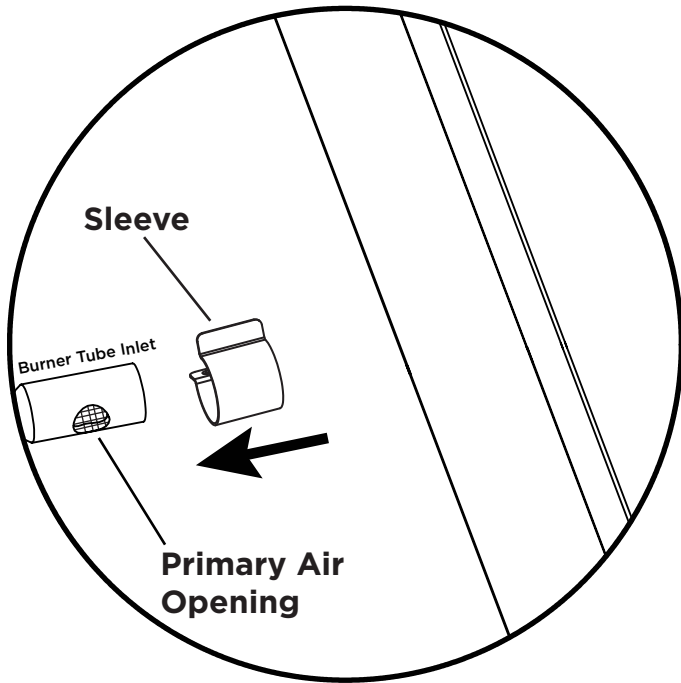

Fig. 1
7. Slip the sleeve over the primary air opening (see Fig. 1). Next, screw the new NG orifice spud into the burner tube inlet (see Fig. 2).